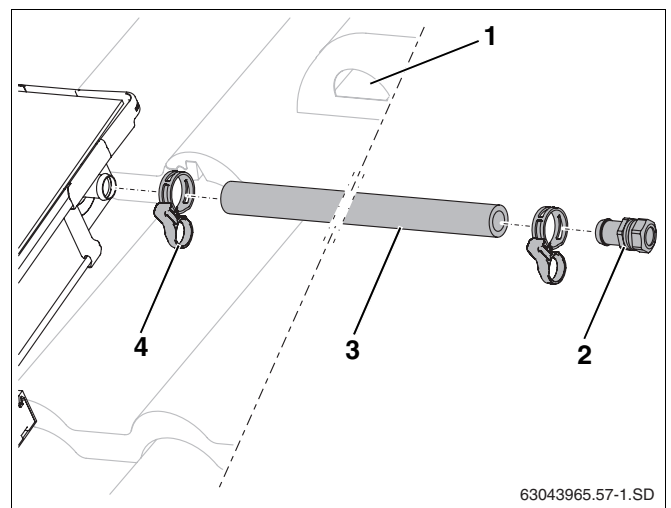

Fig. 53 Fitting flow line (with no vent on roof)
- ▶ Push the long solar hose (1000 mm, Fig. 53, **Item 3**) onto the flow connection on the collector array and fix in place using hose clip (Fig. 53, **Item 4**).
- ▶ Insert hose nozzle with compression fitting (Fig. 53, **Item 2**) into the solar hose as far as it will go, and fix in place with hose clip.
- ▶ Connect header pipe to the R $\frac{3}{4}$ hose nozzle with compression fitting (22 mm) (Fig. 53, **Item 2**).